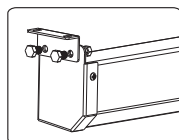

figure 1
a.Wood wall: using a tape measure, measure the distance between the two keyholes on the casing (Figure 1). According to the measurement, use the drill to drill identical holes of the appropriate size on the wall (use a smaller drill bit than the actual screws) and ensure that it is level (Figure 2 & 3). Screw in the appropriate screws, use $\varnothing 5 \times 60$ wood screw for drywalls, leaving enough space at the end to hang the casing (Figure 4). To ensure that the screen is level, use a level to check (Figure 5).
b.Concreted wall: using a tape measure, measure the distance between the two keyholes on the casing (Figure 1). According to the measurement, use the drill to drill identical holes of the appropriate size on the wall (use a smaller drill bit than the actual screws) and ensure that it is level (Figure 2 & 3). Screw in the appropriate screws, use $\varnothing 5 \times 40$ tapping screw with anchor for drywalls, leaving enough space at the end to hang the casing (Figure 4). To ensure that the screen is level, use a level to check (Figure 5).
Using a tape measure find out the distance between the two keyholes on the casing (Figure 1). According to the measurement, use the drill to drill identical holes of the appropriate size on the ceiling and ensure that it is level (Figure 2 & 3). Screw in the hook screws (not provided), and lift the screen into the hook screws to hang (Figure 4). To ensure that the screen is level, use a level to check (Figure 5).